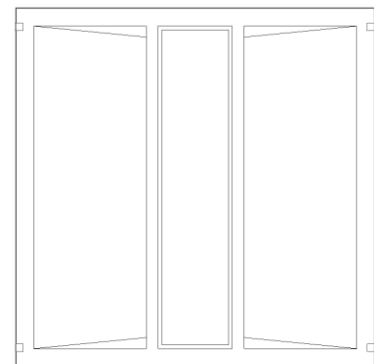

FIG.5
- 4) Ensure that the lens is centered and secured (FIG.5).